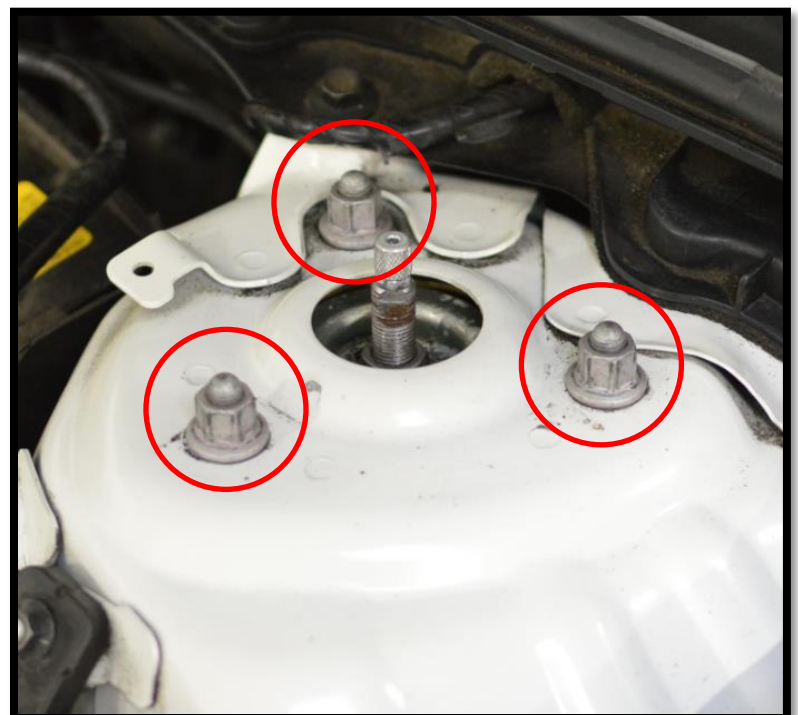

Figure 1d
- k) Use a 14mm to loosen the three strut top nuts circled in red in Figure 1d.